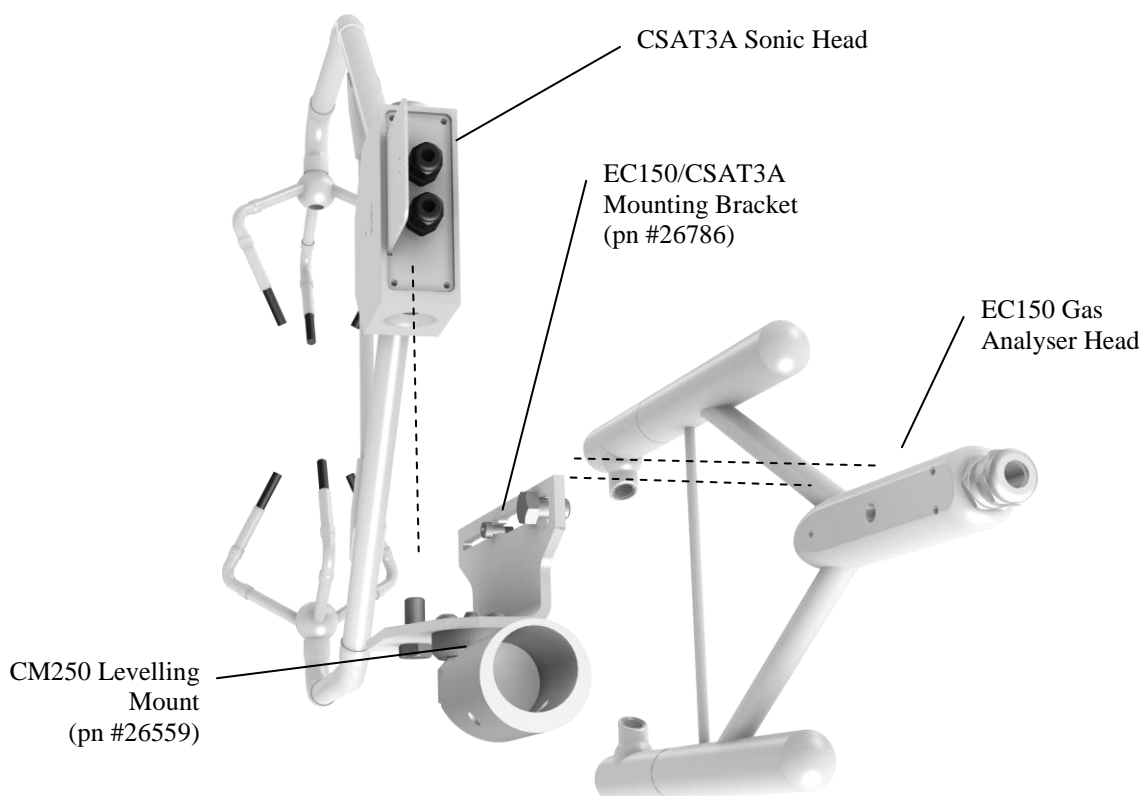
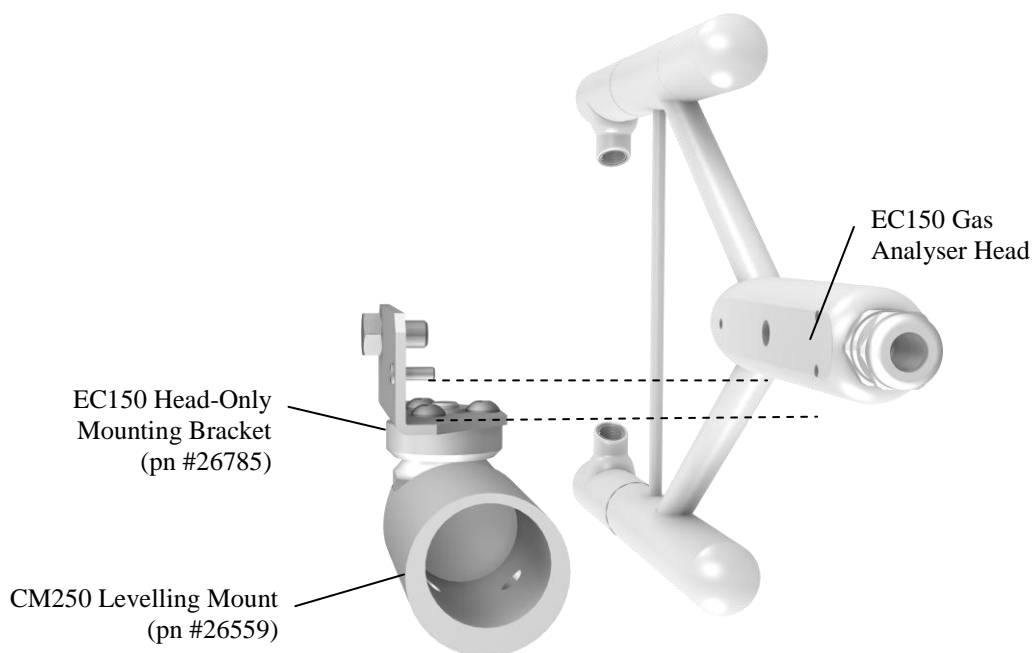

Figure 6-1. Exploded view of mounting the CSAT3A sonic head and EC150 gas analyser head
Figure 6-2. Exploded view of mounting the EC150 gas analyser head without the CSAT3A
The EC150 is supplied with mounting hardware to attach it to the end of a horizontal pipe of 1.31 inch outer diameter, such as the CM202, CM204, or CM206 crossarm (pn #1790x). The EC150 mounting hardware also accommodates an optional CSAT3A sonic anemometer. The following steps describe the normal mounting procedure. Refer to Figure 6-1 or Figure 6-2 throughout this section.
- c. If a CSAT3A is being used, bolt the EC150/CSAT3A mounting bracket (pn #26786) to the CM250 levelling mount (pn #26559) (see Figure 6-1). Next install the CSAT3A sonic head to the EC150/CSAT3A mounting bracket by aligning the threaded hole on the CSAT3A sonic head with the hole on the bracket. Insert and finger-tighten the bolt, making sure there is no cross-threading. Finish tightening with a wrench. Install the assembly to the end of the crossarm by fitting the levelling mount over the end of the crossarm. Tighten the set screws on the levelling mount. The EC150 gas analyser head may now be installed to the EC150/CSAT3A mounting bracket. To do this, tighten the mounting screw and loosely thread the mounting bolt into the analyser head. Next align the analyser parallel with the vertical plate of the mounting bracket and insert the mounting screw and bolt into the mounting bracket slot. Carefully slide the analyser forward. Avoid crashing the arms of the sensors together. The arms of the analyser should slide in between the claws of the CSAT3A; the sonic head may need to be loosened and repositioned to do this. Tighten the bolts. Make sure that the analyser is vertically oriented so that the label is right-side-up and the upper arm (source) is directly above the lower arm (detector).
- d. If a CSAT3A is not being used, bolt the EC150 head-only mounting bracket (pn #26785) to the CM250 levelling mount (pn #26559) (see Figure 6-2). Mount the EC150 gas analyser head to the EC150 head-only mounting bracket. To do this, tighten the mounting screw into the back, lower hole of the analyser head, and place the mounting bracket on the analyser head so that mounting screw fits into the bracket's small hole. The other hole in the bracket should line up with the threaded hole on the analyser. Insert the mounting bolt through the holes and tighten. Now mount this assembly to the end of the crossarm by fitting the levelling mount over the end of the crossarm. Tighten the set screws on the levelling mount.